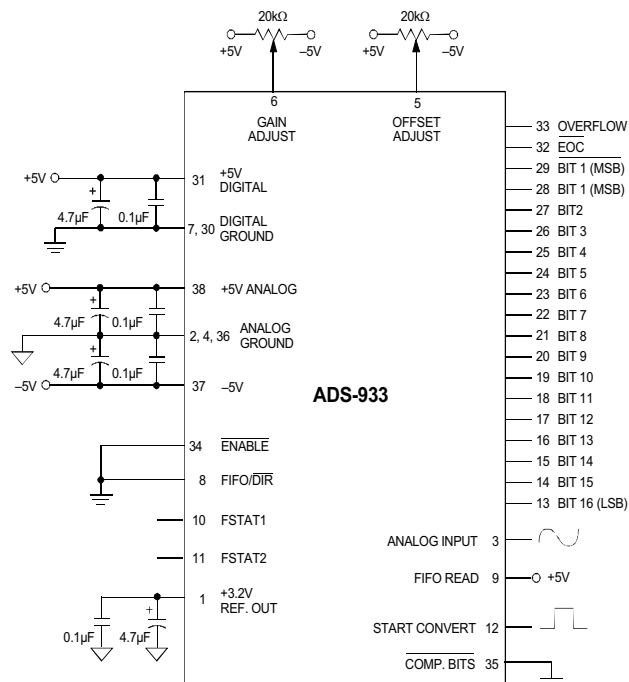

Figure 2. Bipolar Connection Diagram
2. The ADS-933 achieves its specified accuracies without the need for external calibration. If required, the device's small initial offset and gain errors can be reduced to zero using the adjustment circuitry shown in Figure 2. When using this circuitry, or any similar offset and gain calibration hardware, make adjustments following warmup. To avoid interaction, always adjust offset before gain. Tie pins 5 and 6 to ANALOG GROUND (pin 4) if not using offset and gain adjust circuits.
Connect the converter per Figure 2. Any offset/gain calibration procedures should not be implemented until the device is fully warmed up. To avoid interaction, adjust offset before gain. The ranges of adjustment for the circuits in Figure 2 are guaranteed to compensate for the ADS-933's initial accuracy errors and may not be able to compensate for additional system errors.